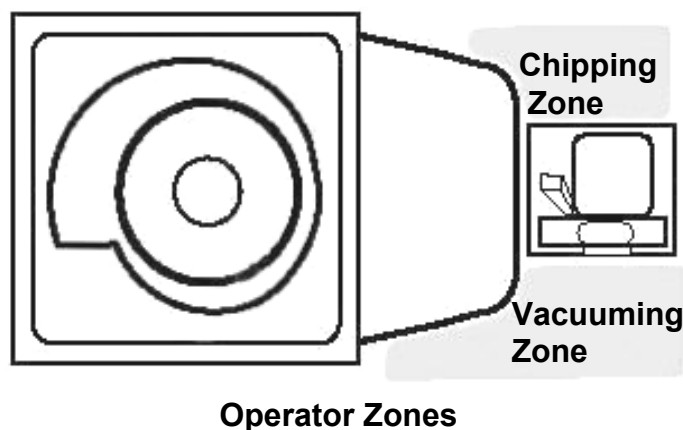

Figure 27
Note: Always be sure to stand inside the **Operator Zones** to run the DR LEAF and LAWN VACUUM as a chipper or held hand vacuum. These are the areas on either side of your machine (*Figure 27*).
- Always operate the chipper from the “Chipping Zone” (see *Figure 27* on page 25).